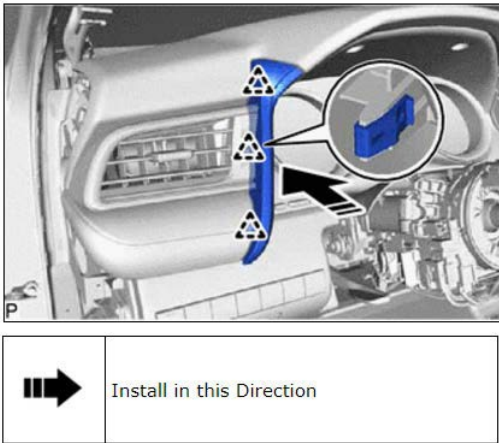

Figure 42
- (a) Engage the 3 clips to install the No. 2 meter hood cluster as shown in Figure 42.